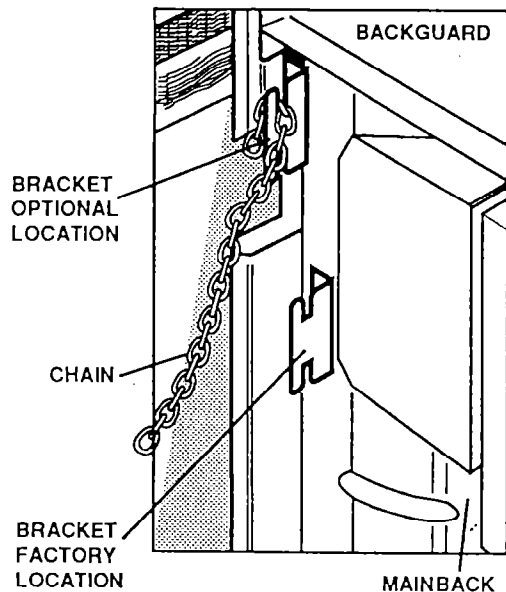

Fig. 12
1. Before placing range in the counter, notice the location of the stability bracket which is already attached to the back of the range. This location should work for most installations. However, it may be more convenient to hook the stability chain to the unit when the stability bracket is attached to the upper set of holes in the back of the range. See Fig. 12. The upper set of holes are intended for use with a backsplash kit. If the backsplash is not being used, make sure that there are no structural supports for the countertop which will interfere with the stability bracket when located in the upper set of holes.
5. Hook the loose end of the chain onto the bracket by slipping the nearest link of the chain into the slot in the bracket. See Fig. 12 and make sure the chain is pulled as tight as possible and that there is no excess slack in the chain after chain is attached to the bracket.